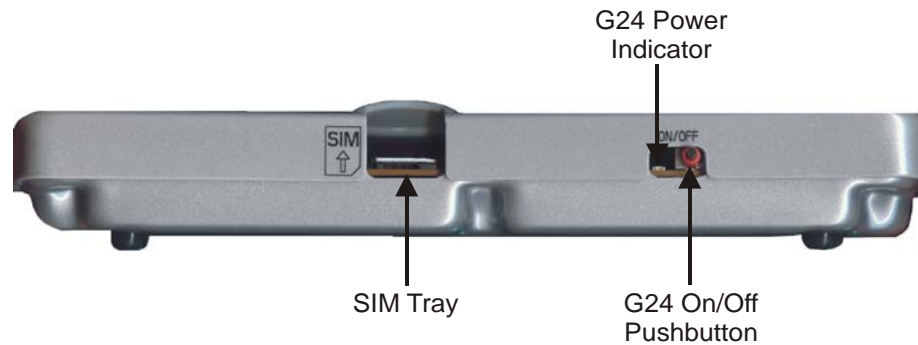

Figure 2-6: G24-L On/Off Pushbutton and Power Indicator LED
2. Turn on the G24-L power by pressing the On/Off pushbutton (S110) for at least 0.5 seconds (Figure 2-6).